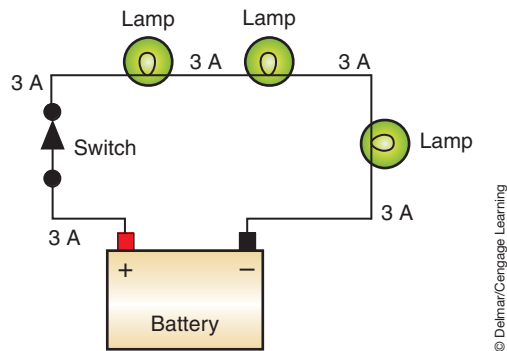

FIGURE 2-19 Regardless of where it is measured, amperage is the same at all points in a series circuit.
2. The current is the same at all points of the circuit (Figure 2-19).